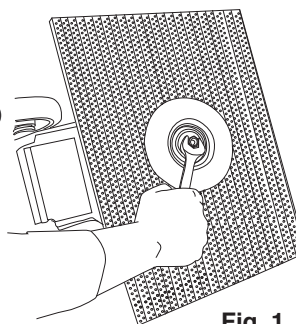

Fig. 1
4. Remove the central screw on the bottom of the pad driver with a 3/4 wrench (Fig.1).